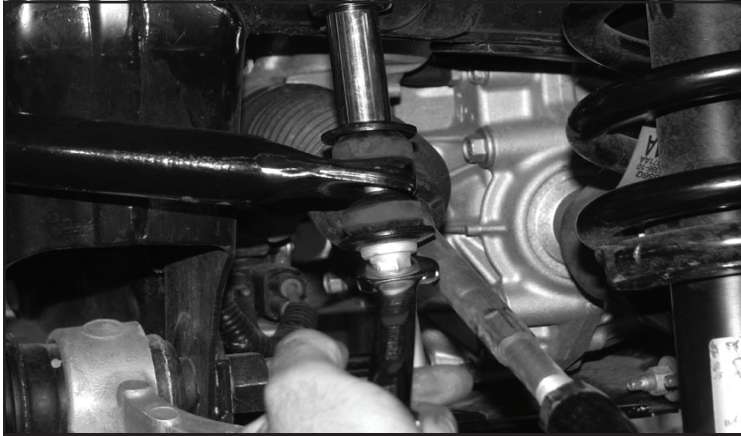

FIGURE 18 - STEP 15
15. **NOTE:** When installing the sway bar to the end link, it may be necessary to leave loose until both sides are complete. Torque to 58 ft-lbs **SEE FIGURE 18**